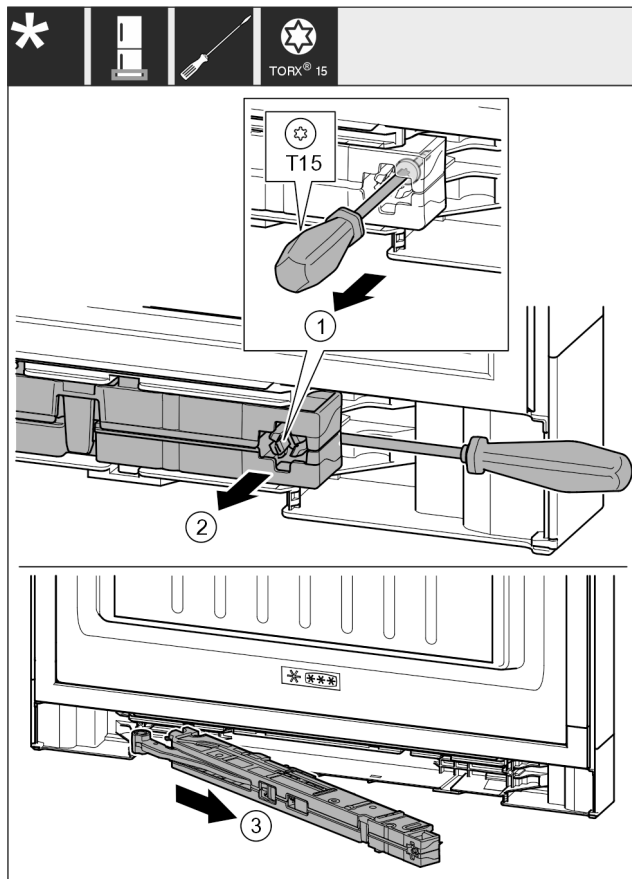

Fig. 17
- ▶ Use screwdriver to loosen the screw Fig. 17 (1) on the closing damper unit by 14 mm.
- ▶ Lever the closing damper unit Fig. 17 (2) forwards on the handle side using a screwdriver.
- ▶ Pull out the closing damper unit Fig. 17 (3).